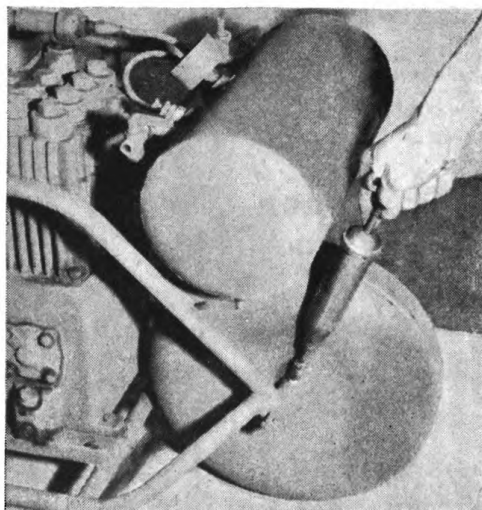

FIGURE 8
4. Lubricate wheel bearings with CG at each 256 hour period. Remove shaft, clean bearing and shaft with solvent and lubricate with CG each 1024 hours. Use lubricating gun with push type fitting. See Figure 8.